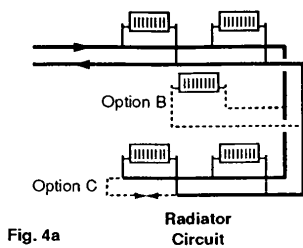
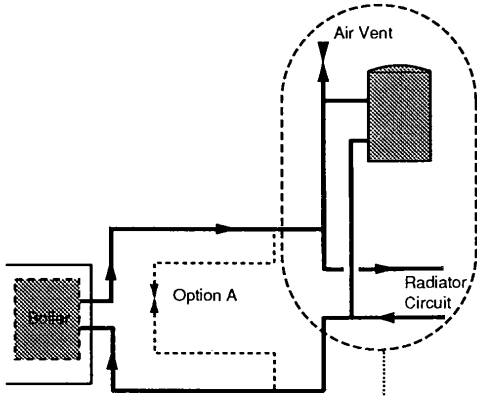

Fig. 4a
Fig. 4b
**NOTE:** For 'S' Plan systems the bypass flow circuit must be situated between pump and zone valves as option A shows (Fig. 4b).
a) For all boilers a minimum of 6 metres of 22mm copper pipe, (measured between the boiler flow and return connections). It should be fitted with a lock shield valve opened at least 1 full turn or a proprietary bypass valve set to give a minimum flow rate of 8 litres/min (1.8 gal/min) (Option C, Fig. 4a & Option A, Fig. 4b).
b) A radiator fitted with lock shield valves. The radiator output should be a minimum of 800 watts (2,700 Btu/h). Typically a convector type radiator with an area of 3750 cm2 (4 sq ft) is adequate (Option B, Fig. 4a).
c) Any circuit that provides the same operating conditions as option A or option B (Figs. 4a & 4b).